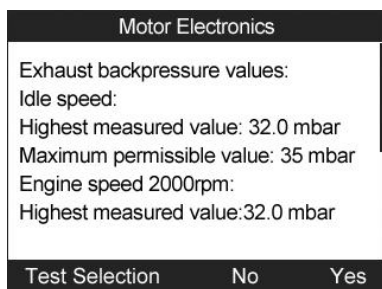

Figure 14.46
- f) The tool will submit a summary report for your confirmation.(Figure 14.46)